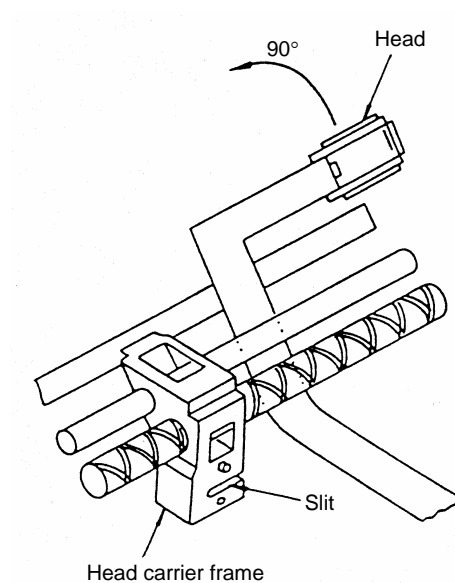
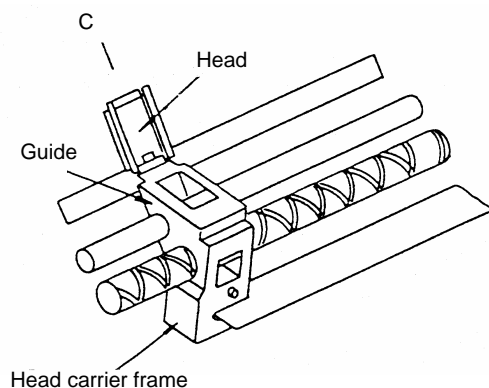

Figure 8-16 Rotating the Head Portion of the Unit
Figure 8-17 Sliding the Head along the Guide of the Head Carrier
- (3) After inserting the head unit terminal, arrange the components as shown in Figure 8-16. Then, rotate the head portion of the unit by 90° into the position shown in Figure 8-17.
- (4) Slide the head unit terminal cable into the slit provided on the head carrier. Next, slide the head along the guide of the head carrier until it touches the guide (see Figure 8-17).